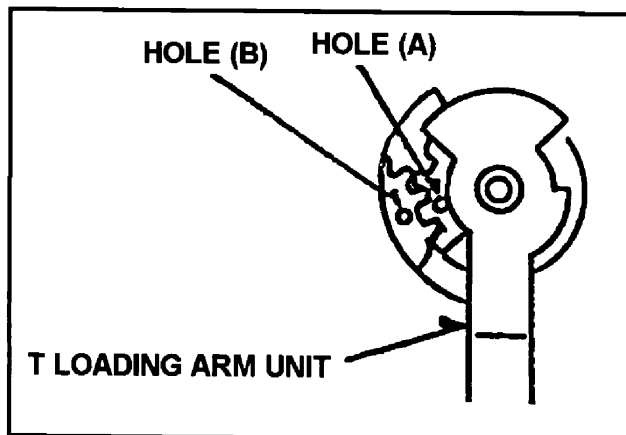

Fig. M17
2. When installing the T1 Boat Unit, the hole (A) Should match with the hole (B) as shown in Figure M17.